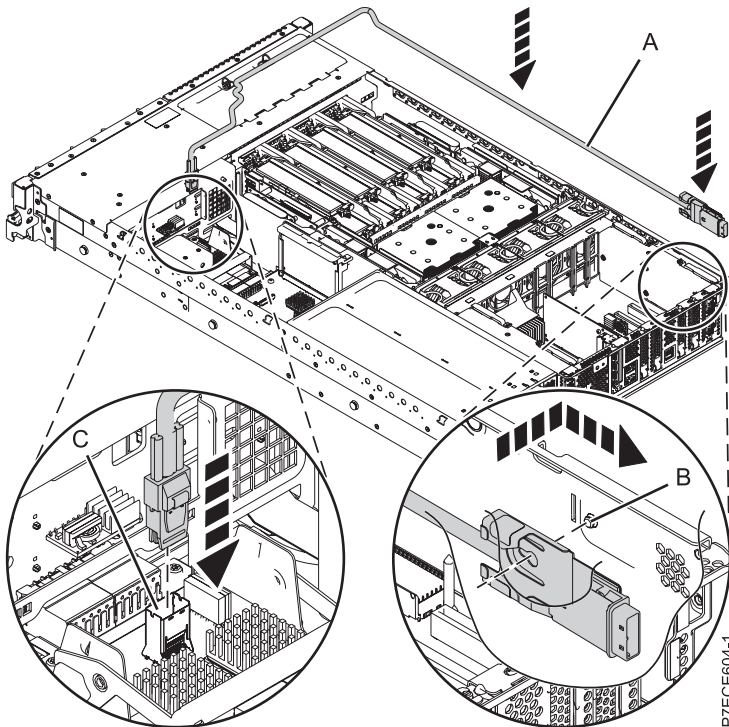

Figure 29. Installing the SAS cable
10. Connect the mini-SAS connector of the SAS cable to the internal SAS connection port (C) on the storage interposer until it snaps in place. See Figure 29.
11. Route the cable (A) in front of the memory riser cage, and along the channel in the side wall until the SAS port connector is near the opening on the rear of the chassis.
12. Align and guide the slot in the bracket of the SAS port connector (B) over the guide pin in the chassis. Then slide the SAS port connector into the opening on the rear of the chassis until the tab on the bracket snaps in place.